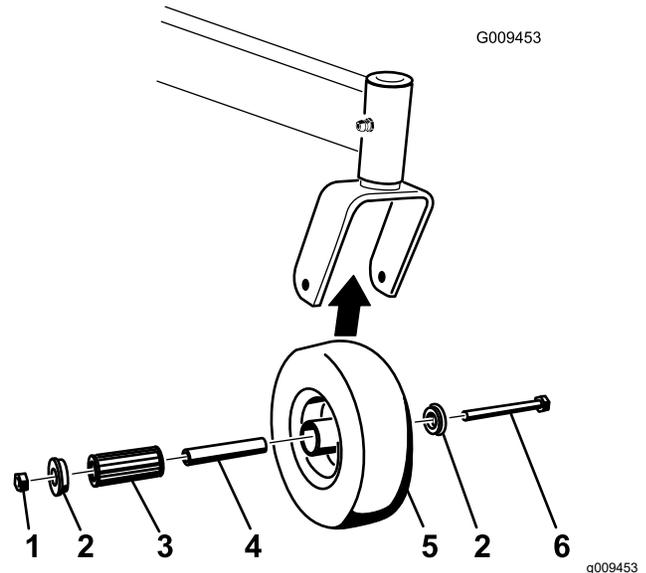

Figure 55
1. Remove the locknut and wheel bolt holding the caster wheel to the caster fork (Figure 55).
2. Remove 1 bushing, then pull the spanner bushing and roller bearing out of the wheel hub (Figure 55).
3. Remove the other bushing from the wheel hub and clean any grease and dirt from the wheel hub (Figure 55).
**Note:** Replace any damaged or worn parts (Figure 55).
5. Place 1 bushing into the wheel hub (Figure 55).
6. Grease the roller bearing and spanner bushing, and slide them into the wheel hub (Figure 55).
7. Place the second bushing into the wheel hub (Figure 55).
8. Install the caster wheel into the caster fork and secure it with the wheel bolt and locknut (Figure 55).
9. Tighten the locknut until the spanner bushing bottoms against the inside of the caster forks (Figure 55).